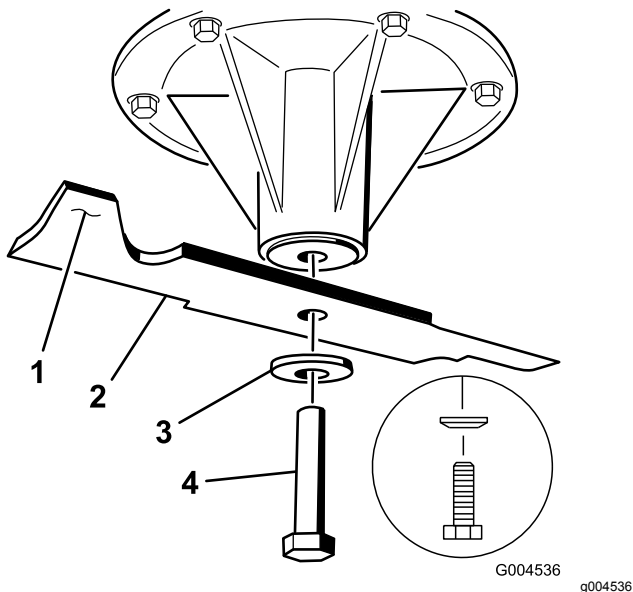

Figure 103
2. Remove the blade bolt, the curved washer, and the blade from the spindle shaft (Figure 103).